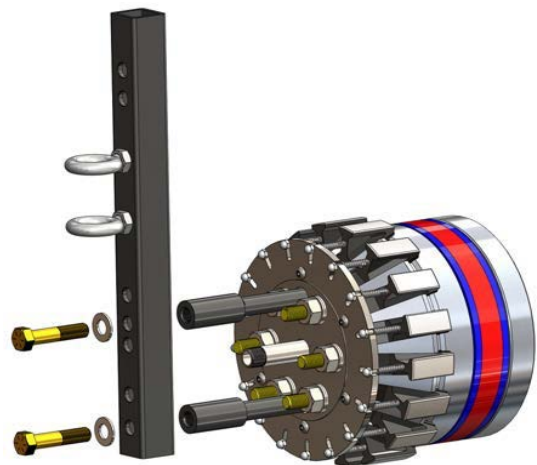

Figure 22: Aligning and fastening Telescoping Lifting Attachment on to Lifting Stand
- 12.2 Line up the holes on the Telescoping Lifting Attachment(25) with the internally threaded holes on the Lifting Standoffs(26). Fasten the Telescoping Lifting Attachment(25) onto the Lifting Standoffs(26) with the provided Lifting Device Bolts(27) and Washers(28). See Figure 22.